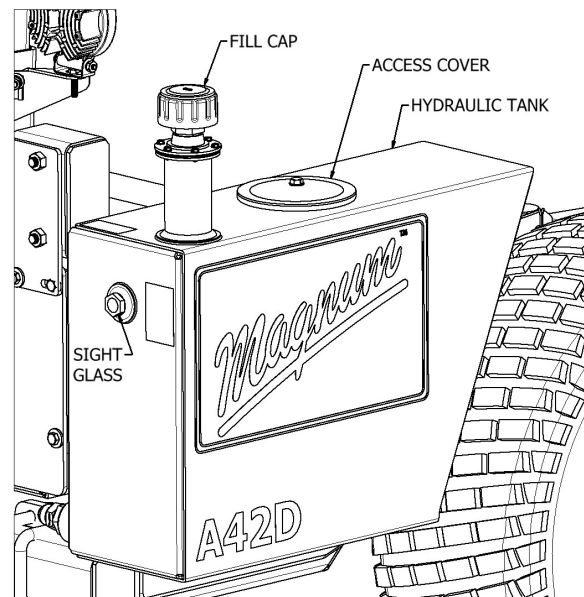

Figure 5.1 – Hydraulic Tank
1. Locate the hydraulic tank sight glass. See Figure 5.1. The fluid level should be even with the center of the sight glass.
5. Replace the fluid with 9 gallons (34 liters) of Amsoil HVJ ISO68 synthetic hydraulic fluid or equivalent SAE 20 synthetic oil. Fill the tank until the fluid level is even with the center of the sight glass. See Figure 5.1.